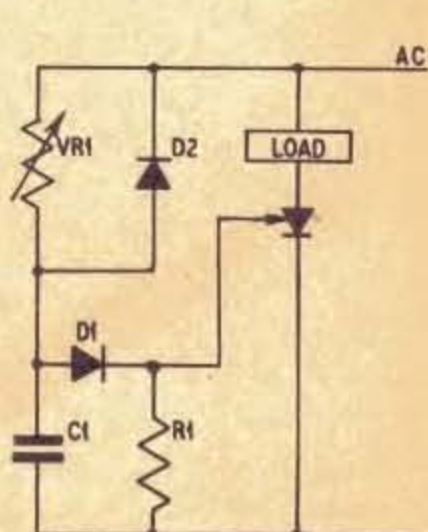

Fig. 6. Basic phase control circuit for a.c. supply
a.c. supply on the anode, the anode voltage falls to zero at regular intervals. The gate can exert a constant control over the current in the anode load (in d.c. circuits once the thyristor fires it remains on and the gate cannot exert any further control). Consider the circuit in Fig. 6, which is not intended as a practical circuit but is simplified to show the operation.